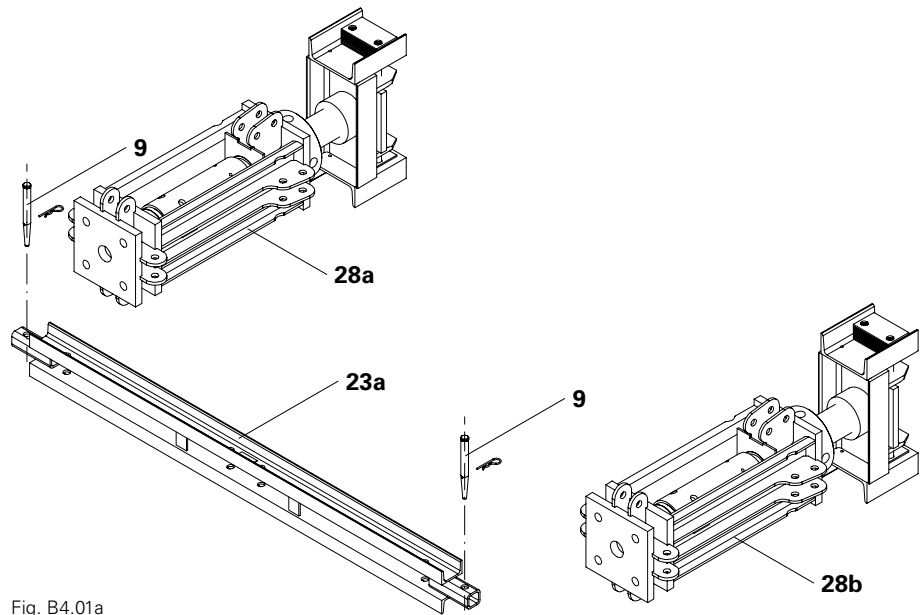

Fig. B4.01a
3. Connect the bottom Horizontal Ledger VST 200 (**23a**) to the second Head Spindle VST 100 (**28b**) using 1x Fitting Pin \varnothing 21 mm (**9**) and secure with Cotter Pin 4/1, galv. (Fig. B4.01a)